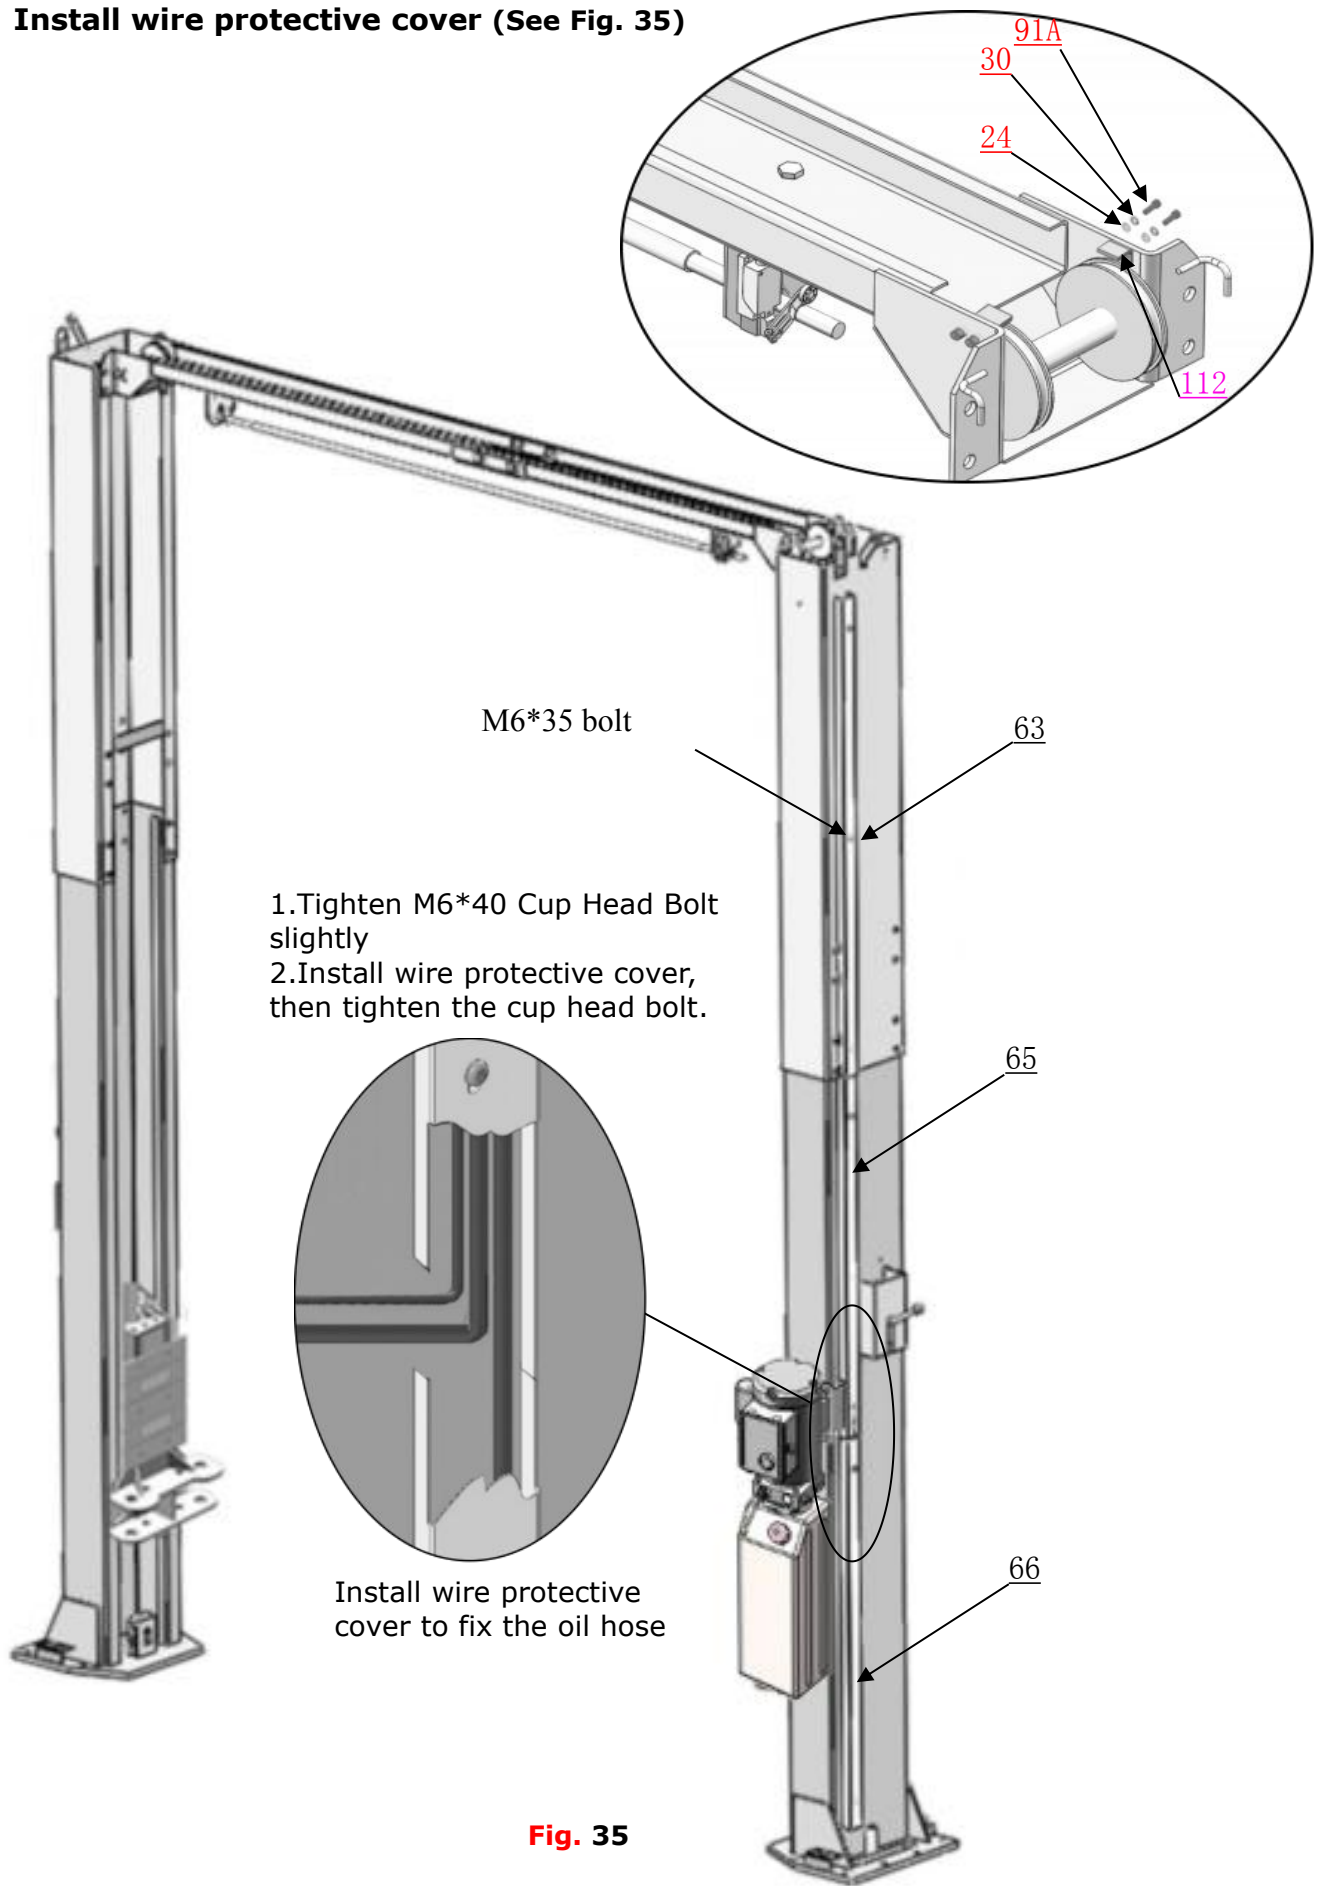

Fig. 35
P. Install wire protective cover (See Fig. 35)